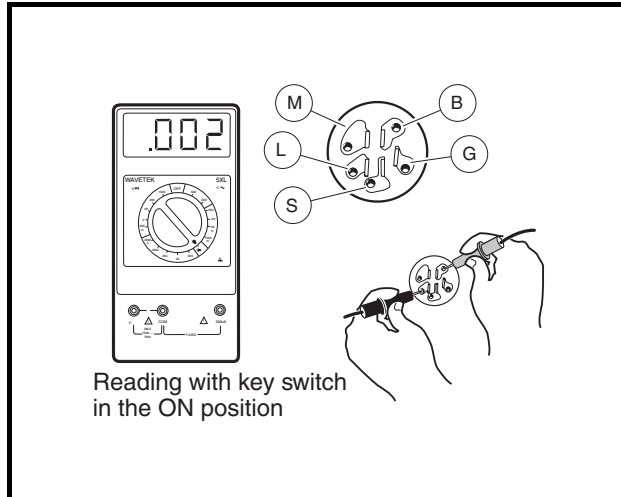
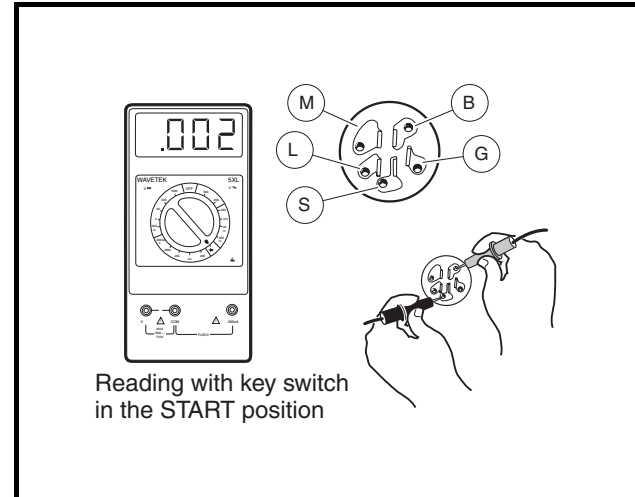

Figure 11-9 Key Switch Test – Accessory Terminal
Figure 11-10 Key Switch Test – Starter Circuit
5. Insert the key and turn the key to ON. Place the red (+) probe of the multimeter on the (B) terminal and the black (–) probe on the (L) terminal of the key switch. The reading should be continuity. If the reading is incorrect, replace the key switch (**Figure 11-9, Page 11-14**). See **Key Switch Removal, Section 13, Page 13-14.**
6. With the key still in the ON position, place the red (+) probe of the multimeter on the (B) terminal and the black (–) probe on the (S) terminal of the key switch. The reading should show no continuity. If the reading is incorrect, replace the key switch. See **Key Switch Removal, Section 13, Page 13-14.** If the reading is correct, leave the probes connected and proceed to the next step.
7. Insert the key and hold the key in the START position. The reading should be continuity. If the reading is incorrect, replace the key switch (**Figure 11-10, Page 11-14**). With the red (+) probe of the multimeter on the (B) terminal and the black (–) probe on the (L) terminal of the key switch, the reading should be continuity. If either reading is incorrect, replace the key switch. See **Key Switch Removal, Section 13, Page 13-14.**
5. Insert the key and turn the switch to the ON position. With the multimeter set to 200 ohms, place the red (+) probe of the multimeter on the (B) terminal and the black (–) probe on the (L) terminal of the key switch (**Figure 11-9, Page 11-14**). The reading should be continuity. If the reading is incorrect, replace the key switch. See **Key Switch Removal, Section 13, Page 13-14.**